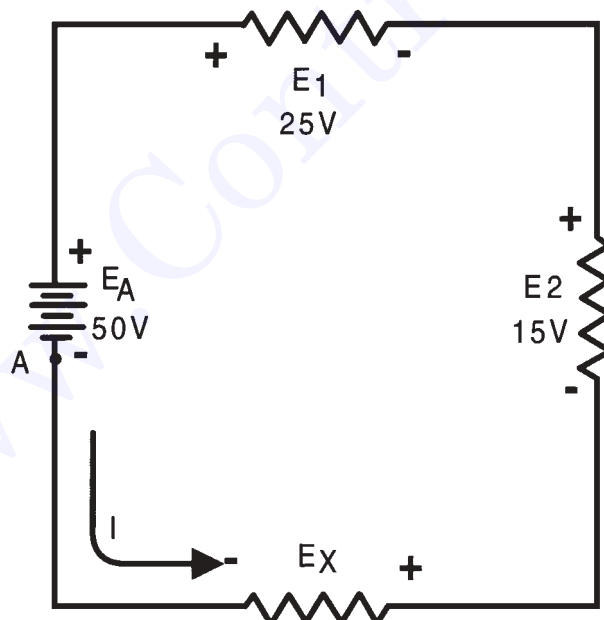

Figure 10.31 Determining unknown voltage in a series circuit.
1. Draw a diagram such as the one shown in Fig. 10.31.
2. Draw an arrow indicating the assumed direction of current flow. Again, see Fig. 10.31.
3. Using the current direction arrow as made in Step 2, mark the polarity (– or +) at each end of each resistor and also on the terminals of the source. These markings are also shown in Fig. 10.31.